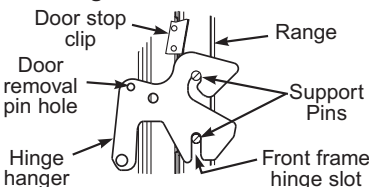

Figure 4
2. Hold oven door so that the top edge of each hinge hanger is horizontal. Insert hinge hangers into the front frame hinge slots. see Figure 4.